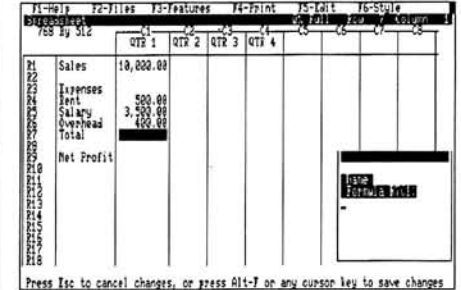

Figure 4
17. Press Alt-F (the speed key for selecting Type or edit cell formula from the Features menu). A small box appears in the lower right corner, as seen in Figure 4.